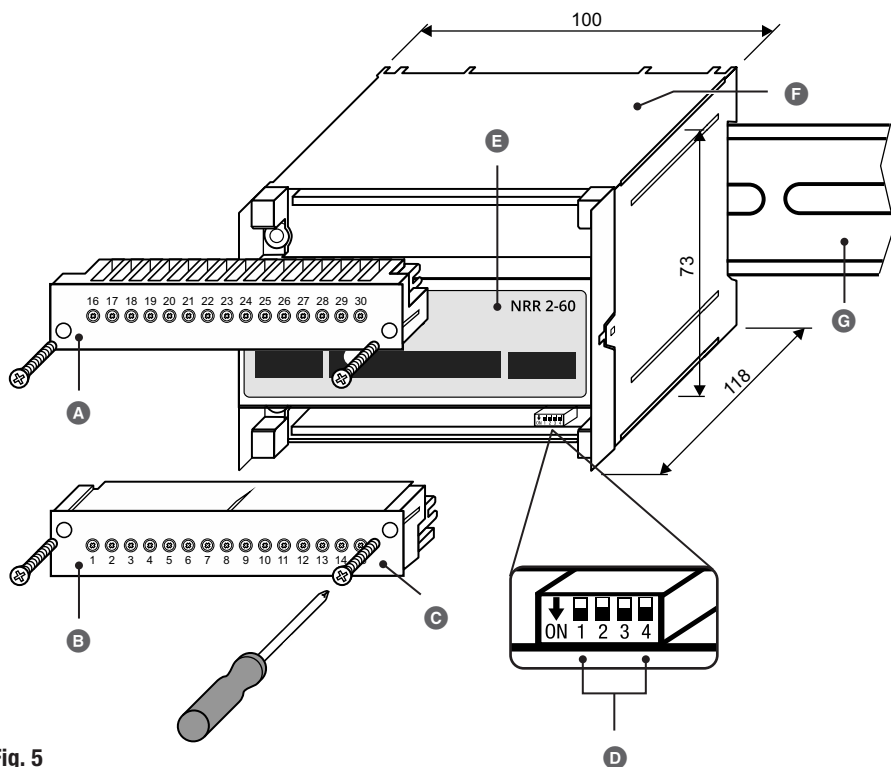

Fig. 5
You can change the baud rate and controller group of the NRR 2-60 level controller at any time using code switch **Ⓢ** (see **Fig. 5**).
2. Unscrew and pull off the lower terminal strip, see **Fig. 5**.
3. Set code switch **Ⓢ** (see **Fig. 5**) as desired, see page 23, **Fig. 9**.
Fig. 5. The desired controller functions are achieved by connecting the different level electrodes and configuring the URB 60 visual display and operating unit as appropriate.
Code switch **Fig. 5** - sliding switch, white
Code switch Fig. 5